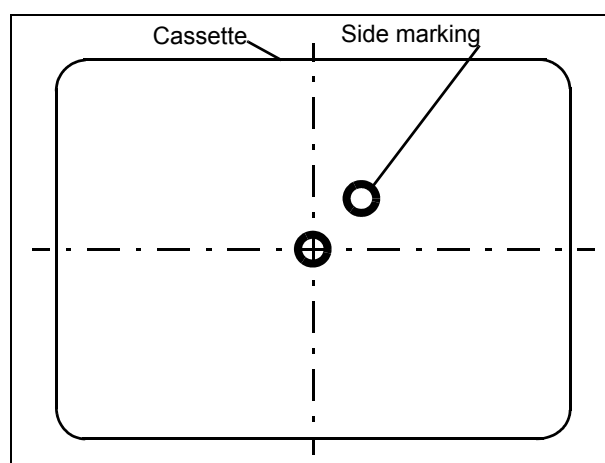

Fig. 1
- Mark the 42 cm x 35 cm cassette as indicated in Fig.1 with small metal washers and insert the cassette.